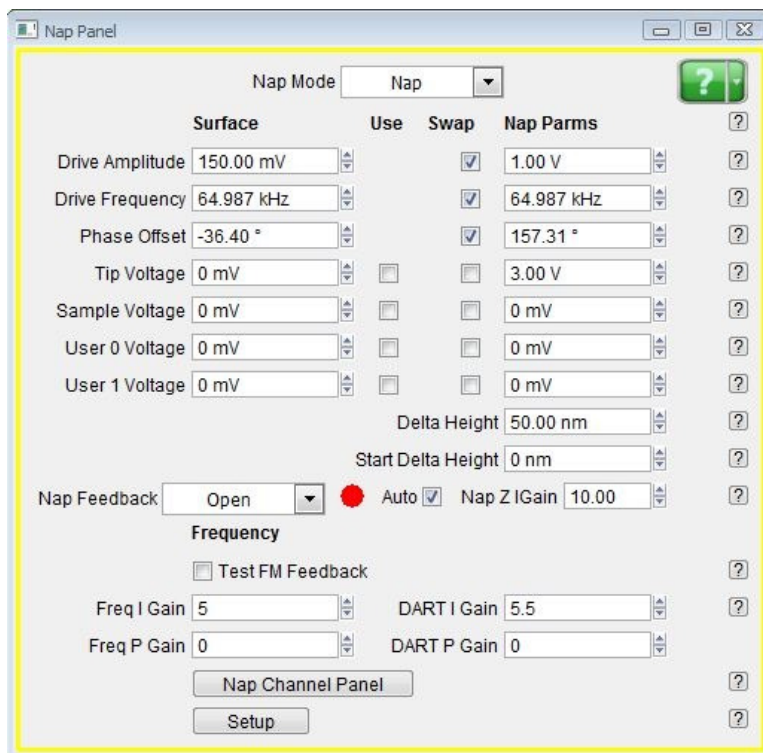

Figure 11.3.: Nap Panel configured for SKPM scan. The values in the parameters may vary depending on your tip and sample.
14. Select *Drive Amplitude*, *Drive Frequency*, and *Phase Offset* under the **Swap** column. See Figure 11.3 on page 143
17. Open **Nap Channel Panel** (*AFM Controls* ▸ *Nap Channel Panel*) or click the **Nap Channel Panel** button at the top-left of the **Nap Panel**. See Figure 11.3 on page 143